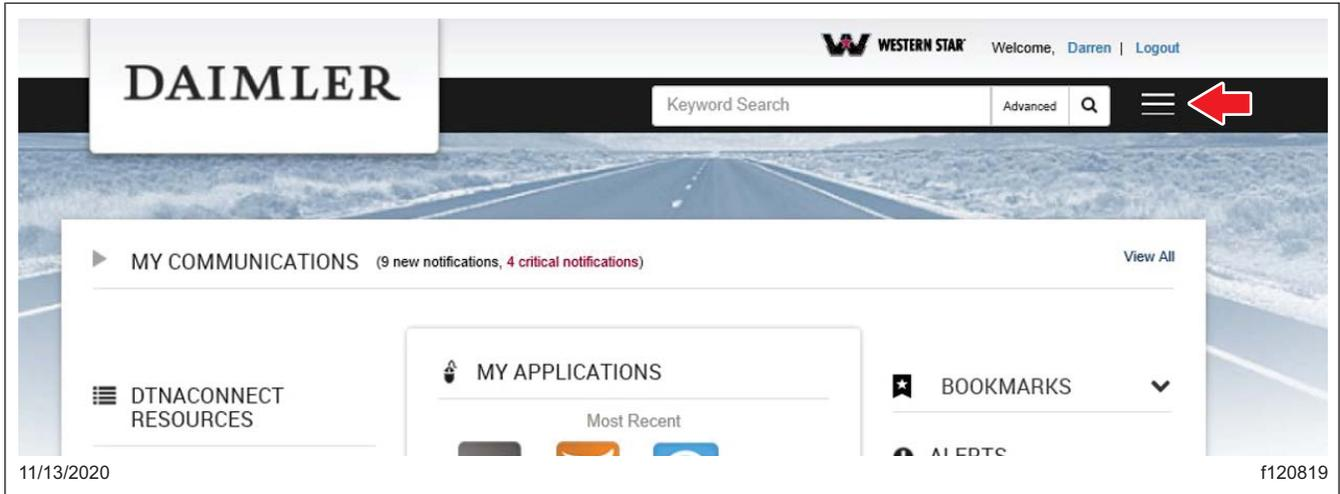

Fig. 1, DTNACONnect Home Screen
4. On the laptop, go to DTNACONnect and select the three menu bars in the upper right-hand corner. See Fig. 1.